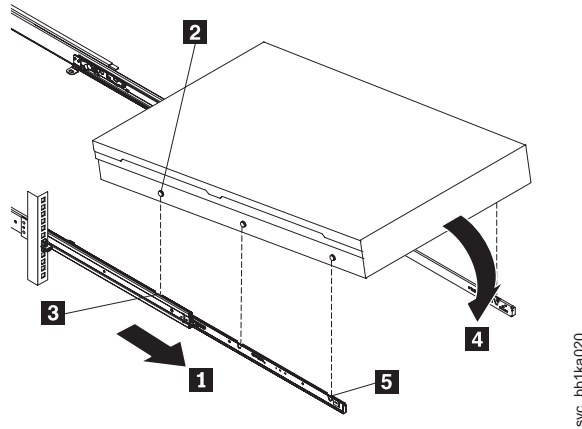

Figure 40. Installing the SAN Volume Controller 2145-CF8 node in the slide rails of the rack
- a. Pull the slide rails forward (**1** in Figure 40 on page 62) until they click twice into place.